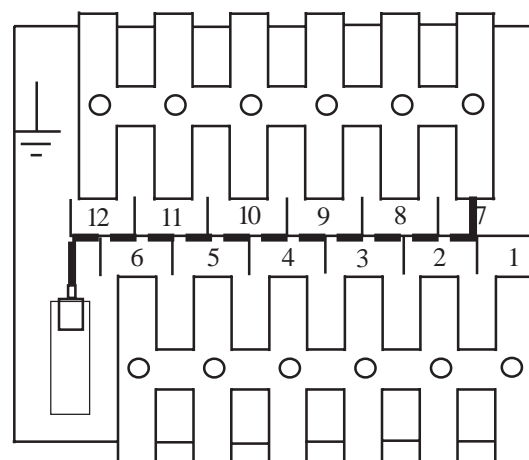

Fig. 6
- Locate the 'Voltage Selector' (refer to Fig. 6 and Table 2) and transfer the flying lead to the next connection on the terminal block,